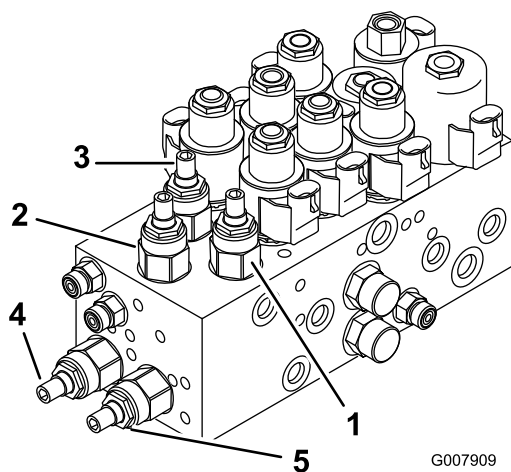
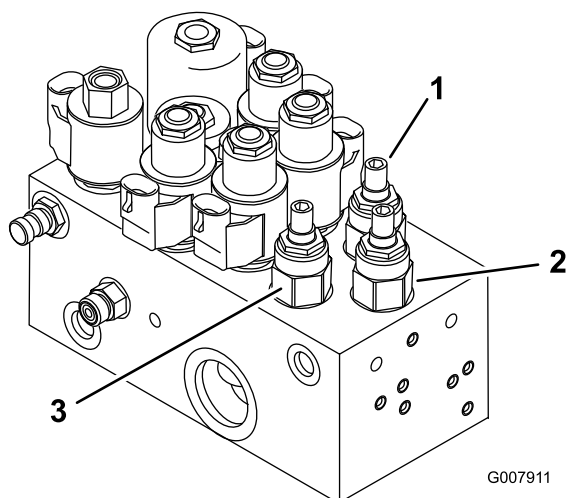

Figure 85
Figure 86
1. Locate the valves, on the lift manifold, for adjusting the desired cutting unit(s) (See chart and Figure 85 and Figure 86).